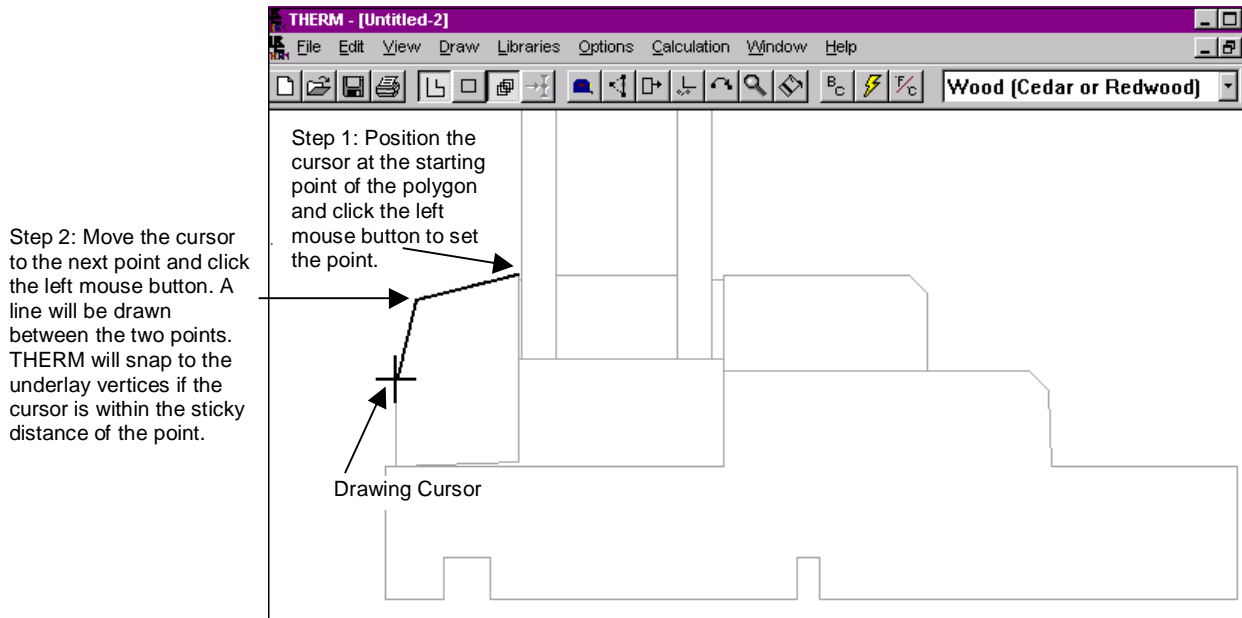

Figure 8-18. Start drawing the first polygon.
- With the material selected, you are ready to start drawing the polygon for the exterior stop. Place the drawing cursor on the upper point of the stop nearest the glass and click the left mouse button. This sets the starting point of the polygon, as shown in Figure 8-18.
- Move the mouse to the left and down to the next point on the polygon, click the left mouse button, and a line will appear between the two points, shown in Figure 8-18. Because you are tracing a DXF file, THERM recognizes the vertices of the polygons; therefore you don't have to be exactly on a point but only to be within "sticky" distance (defined as half of one side of the drawing cursor) of the point.